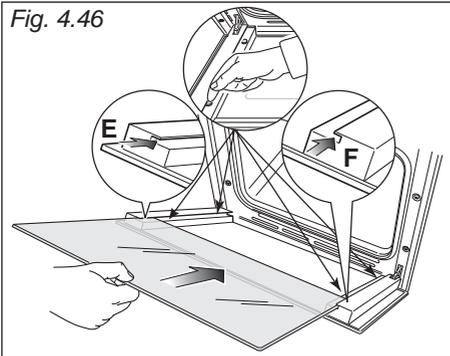
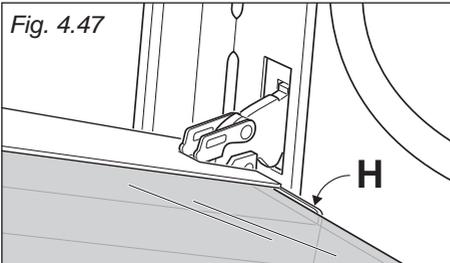

Fig. 4.46
Fig. 4.47
IMPORTANT: It is advisable, while refitting the glass, to keep pressed in position the four rubber pads "D", by a finger, to avoid breakage or slippage of the rubber pads themselves (fig. 4.46).
- Insert the pane in the left "E" and right "F" slide guides (fig. 4.46), and gently slide it to the retainers "H" (fig. 4.47).